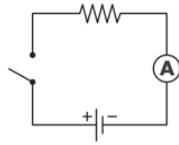

Figure 6.4: Ohm's law circuit.
1. Construct the circuit of Fig. 6.4 using one battery, a switch, the current module (CM) to measure current, the spring-clip module in place of the resistor, and any necessary wire modules.